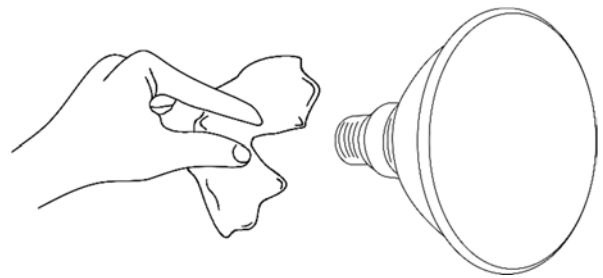

Fig. 04
- 03) Remove the lamp from the box and hold it **by the base**. Read lamp instructions. **Do not touch the lamp bulb glass.** Oil on hands shortens the lamp's lifespan. If you touch the bulb glass, wipe it off with a clean, lint free towel and rubbing alcohol (fig. 04).